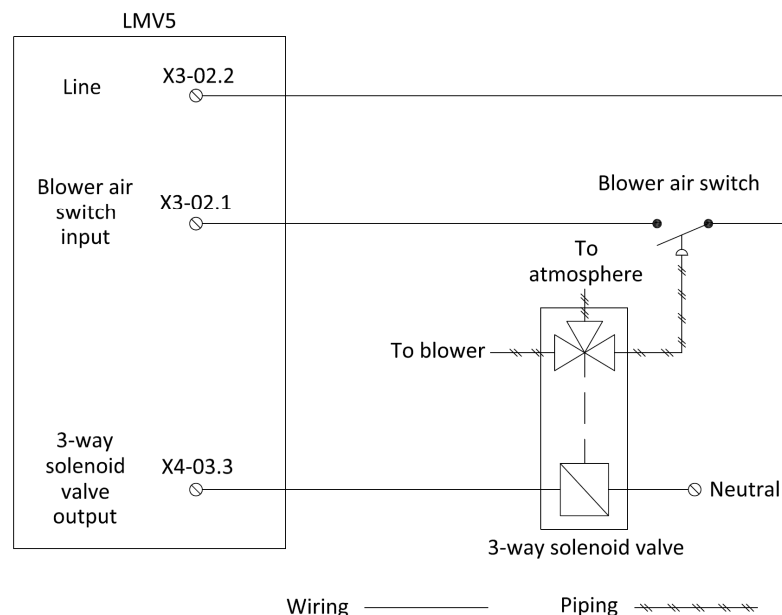

Figure 1: Wiring a 3-way Solenoid Valve for Direct Start
4. Install and wire a 3-way solenoid valve as shown in Figure 1.